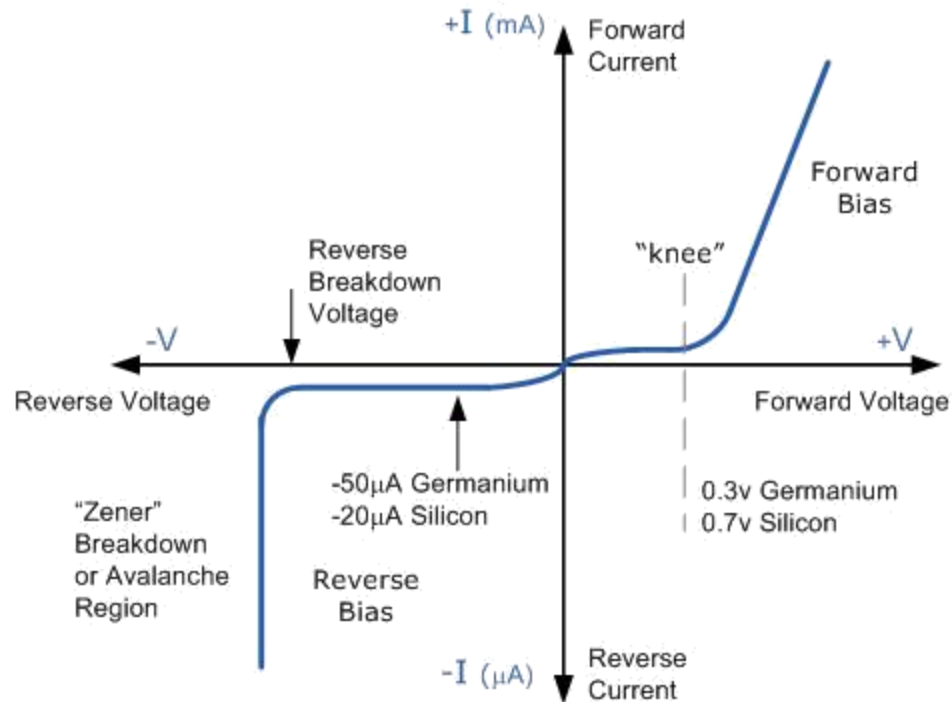

Fig 1.6: V-I Characteristics of PN junction diode
- The diode behavior based on the diode current equation is illustrated in below fig 1.6.